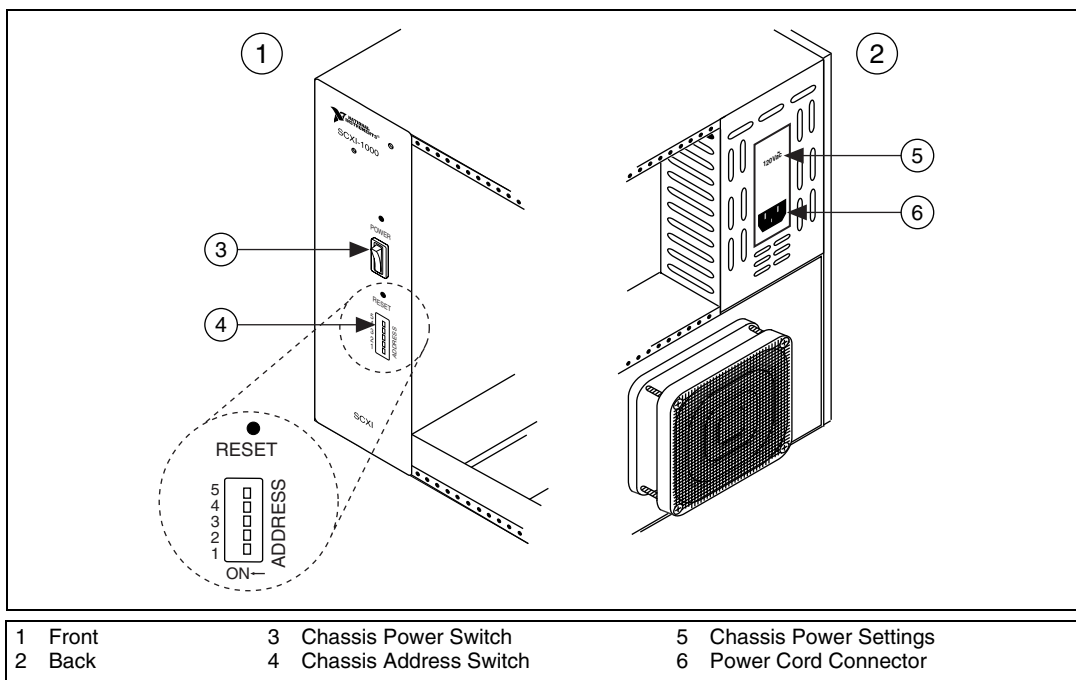

Figure 3. SCXI Chassis Setup
2. If the chassis has address switches, set the positions to off. In Figure 3, all switches are shown in the off position.